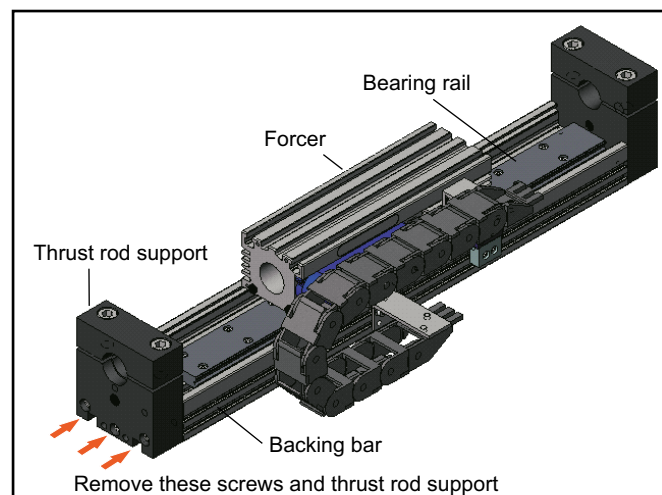

Figure 3.16
- For the SM25 or XM38, see Figure 3.16. Remove the three M6 fixings securing a thrust rod support to the backing bar and slide the thrust rod support out of the backing bar.